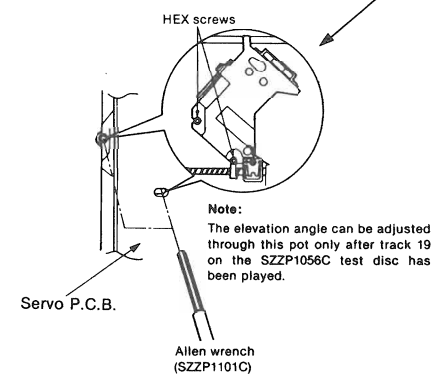

Fig. 3
3. Leave the player in play mode and place it as shown Fig. 3.